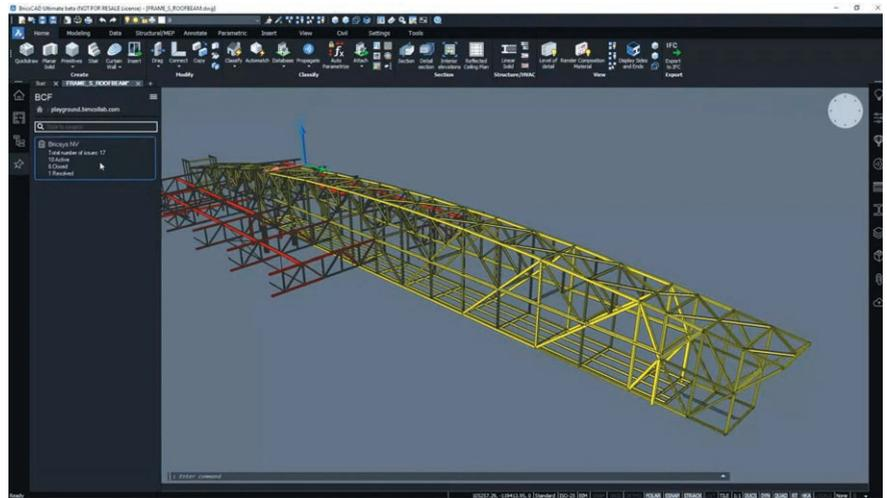

Figure 1: BricsCAD V21 Ultimate combines general CAD with mechanical and BIM functions
- **BricsCAD Ultimate** (\$2,680) – All software listed above and below (see figure 1).